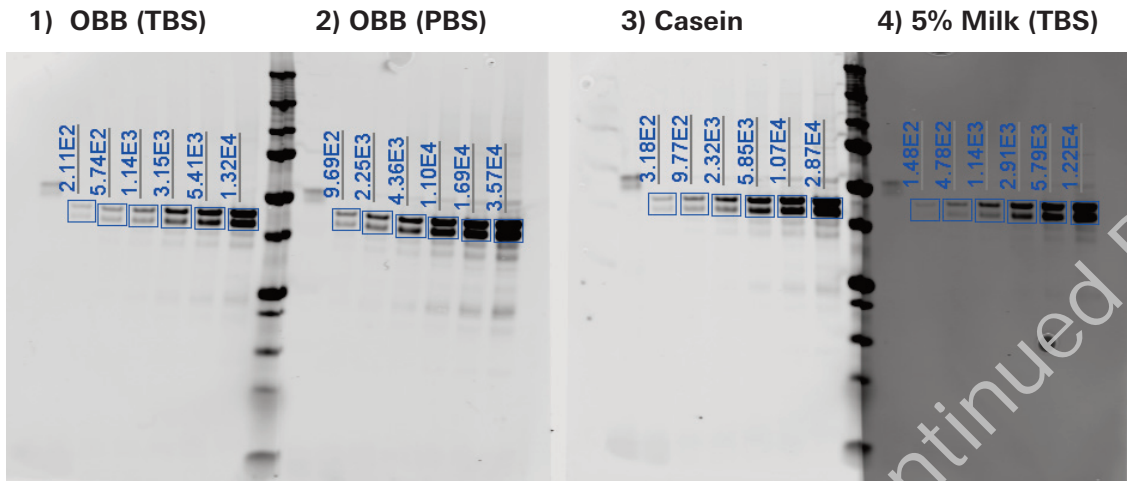

Figure 2A. Blots viewed as a single image, with uniform image display settings.
- View all blots together in a single image, with uniform image display settings, to compare membrane background levels and band intensity (Fig. 2A).
Figure 2A. All blots were viewed together in a single image, with identical image display settings. Signal intensity values are shown in each lane. Higher membrane background was observed on the blot blocked with 5% Milk in TBS.
Signal intensity values in Figures 2A and 2B were not affected by changes to the image display settings. *Signal intensity measurements are derived from the raw image data. Image display settings adjust the visual mapping of raw data to the pixels on the computer monitor, but do not affect the raw data.*
- Blocking with 5% Milk in TBS resulted in higher membrane background than other blocking conditions (Fig. 2A). For comparison of membrane background levels, blots were viewed together as a single image, with uniform image display settings.